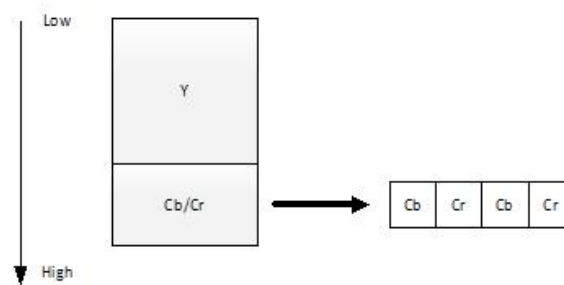

Fig. 8. Layout Y + Mixed CbCr
Layout Y + Mixed CbCr is YCbCr hybrid format with 4:2:0 subsampling. There are two planes: Y, Cb/Cr. Luminance plane (Y) has the same size as original image. Each chrominance value corresponds to one block (2 rows by 2 columns) of original image. Combined Cb/Cr plane contains alternated Cb and Cr pixels. So Cb/Cr plane width is equal to original image width and its height is downscaled by two times. Figure 8 shows color planes in memory array.